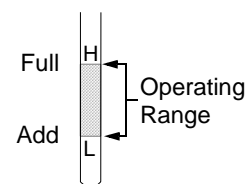

Figure 52
- Always keep the oil level between the 'H' (full) and the 'L' (add) marks on the dipstick. See Figure 52.
- SLOWLY pour oil into the crankcase until the oil level reaches the “FULL” mark on the dipstick. Refer to Figure 52.